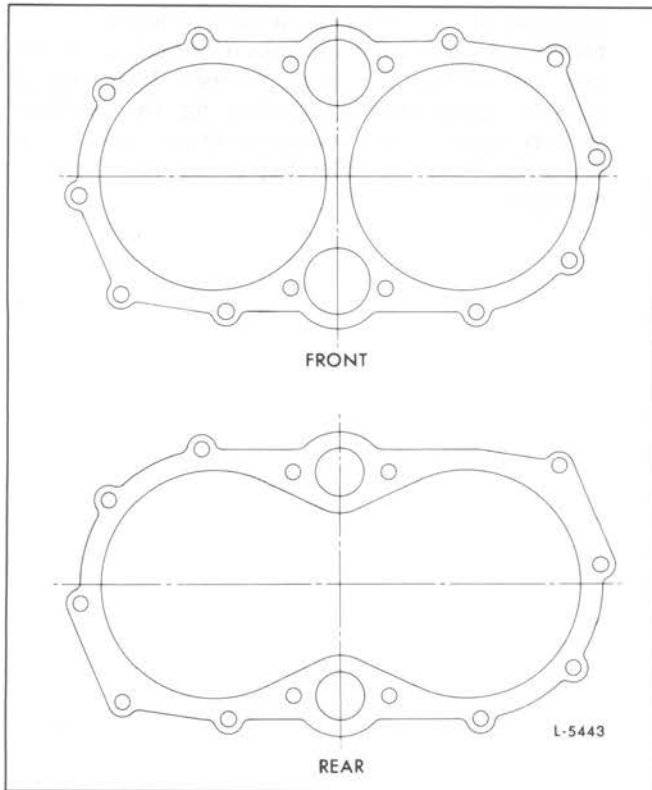

Fig. 15 - Cover Gaskets for Dual Tube Type Oil Cooler
6. Use a new front gasket (Fig. 15) and attach the front cover to the oil cooler with ten 3/8"-16 x 3" bolts and lock washers. Tighten the bolts to 30-35 lb-ft (41-47 N•m) torque.
7. Use a new rear gasket (Fig. 15) and attach the rear cover to the oil cooler with ten 3/8"-16 x 3" bolt and lock washers. Tighten the bolts to 30-35 lb-ft (41-47 N•m) torque.